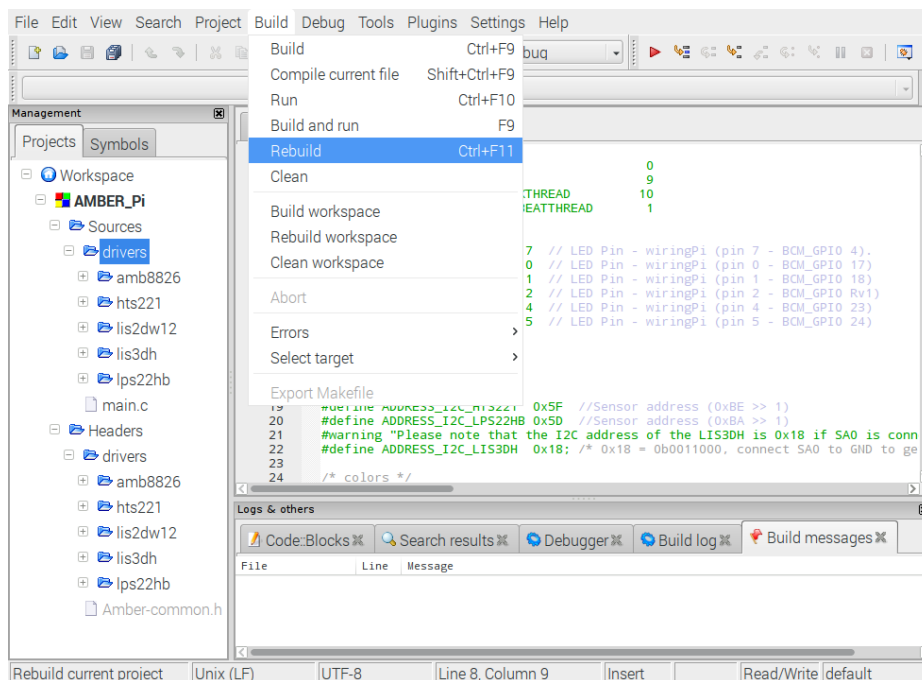

Figure 12: Rebuild the application
7. Then press **Build** → **Rebuild** to build the project (see figure 12).